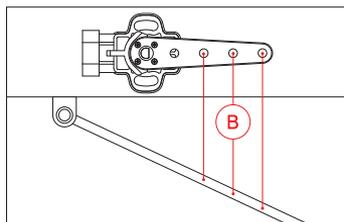

Abb. 24: Coupling rod attachment point
2. Reconnect the air line and apply enough air pressure to the air bellows until the landing gear is at the upper end stop. Now measure the distance [B] from the sensor arm to the selected attachment point of the coupling rod again (Fig. 24). The difference between the two measured values gives the maximum travel [C].